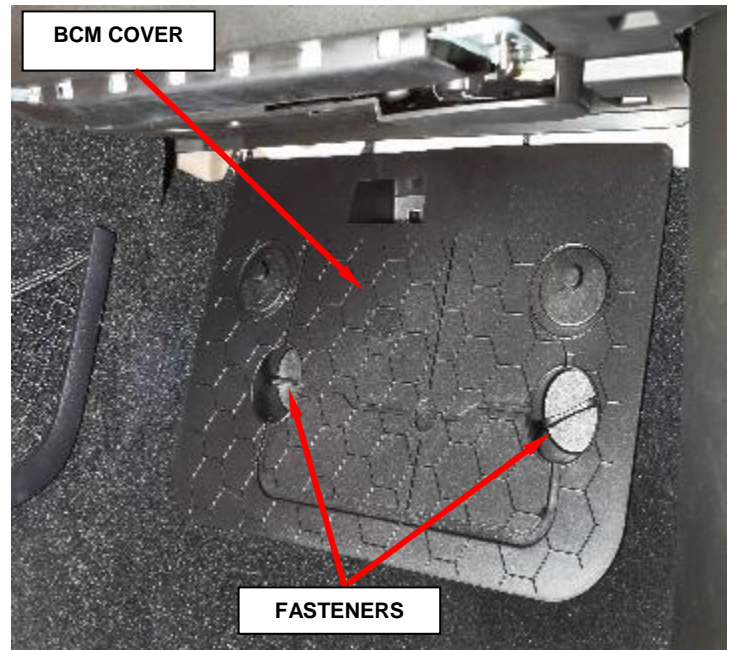

Figure 22 – Remove BCM Cover
2. Remove the fasteners, then remove the BCM cover, releasing it from the lower side (Figure 22).